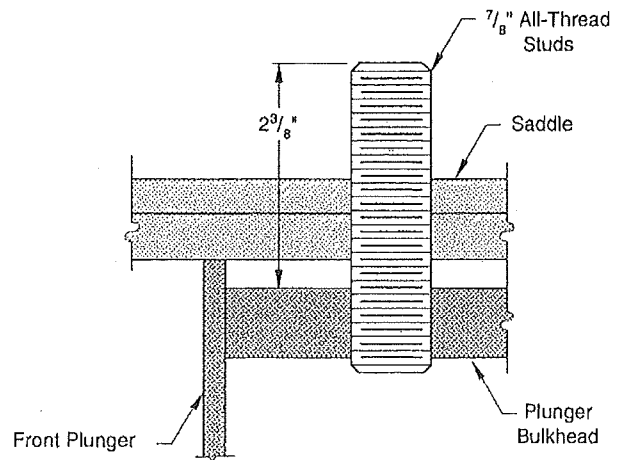

Fig. 23
- (1) Bottle of Locktite 262 Red
- b. Apply (2) drops of Locktite 262 Red (provided in kit) to the threads in the front plunger and (2) drops to the bottom threads of studs.
- c. Screw $\frac{7}{8}$ " all-thread studs into plunger until stud is just below bottom of plunger bulk-head, Fig. 23.